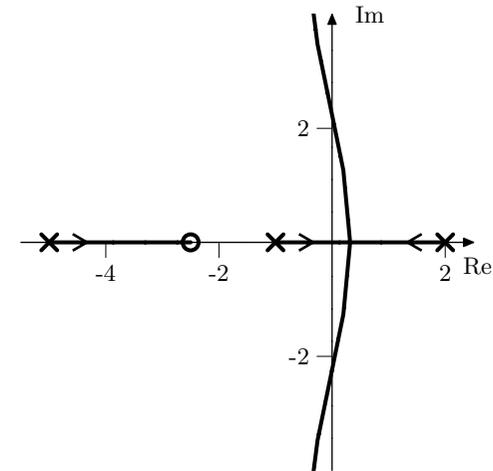
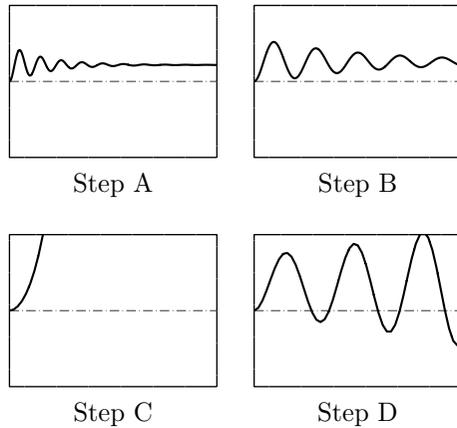

Figure 3.12a. Starting points are marked \times and end points \circ .
Figure 3.12b. All comparable axes have equal scaling.
3.12 Figure 3.12a shows the root locus for the characteristic equation of a P-controlled process G with respect to the gain K . In Figure 3.12b four step responses for the closed loop system with different values of K are shown. Match the plots in Figure 3.12b with the K -values below. Justify your answer.